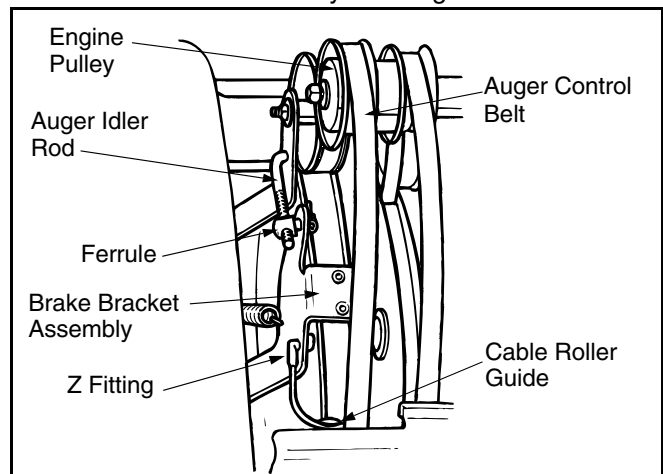

Figure 20
- Remove the cotter pin and washer from the ferrule in order to disconnect the auger idler rod from the brake bracket assembly. See Figure 20.
- Attach the "Z" fitting of the cable into the brake bracket assembly. Refer to Figure 20.